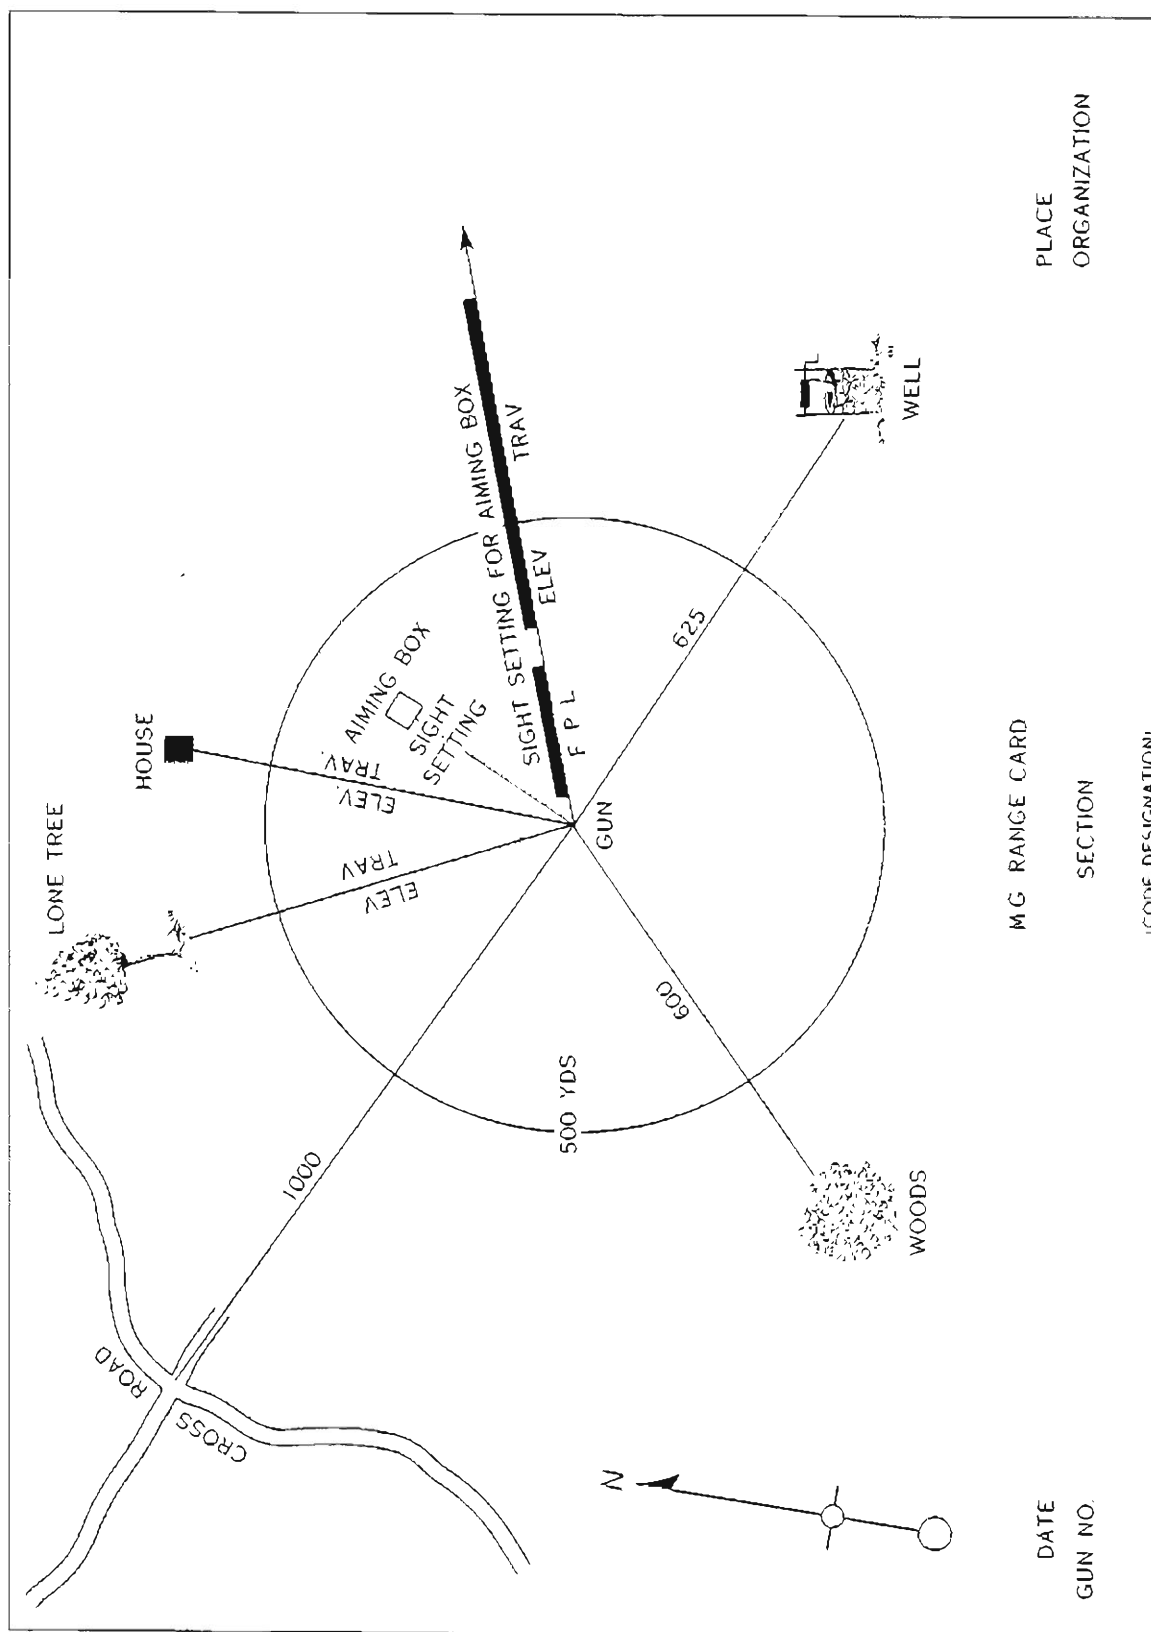

Figure 18
e. For sample range card see fig. 18.